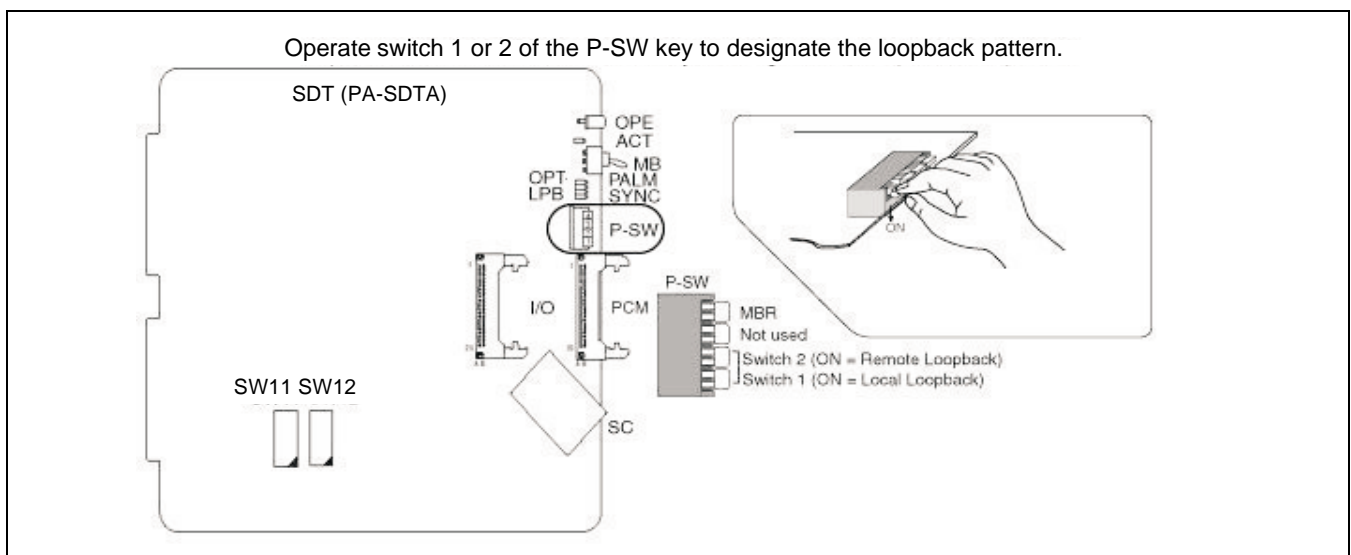

Figure 6-15 Loopback Setting by P-SW key on PA-SDTA Card
STEP 1: Designate the loopback test pattern by setting the P-SW key on the SDT (PA-SDTA) card (see Figure 6-15).
- STEP 3: Return the key settings of the P-SW key (on PA-SDTA card: see Figure 6-15) to the original position.